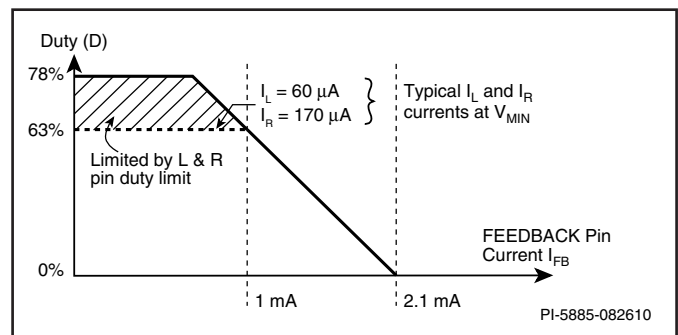

Figure 35. Main Converter FEEDBACK Pin Duty Cycle Control.
The FEEDBACK pin (FB) is the voltage mode PWM control input for the main two-switch forward converter. The duty cycle of the main converter primary on-time is controlled by the feedback sink current of Opto1. Figure 35 shows the transfer relationship between the external feedback sink current and the resultant duty cycle.